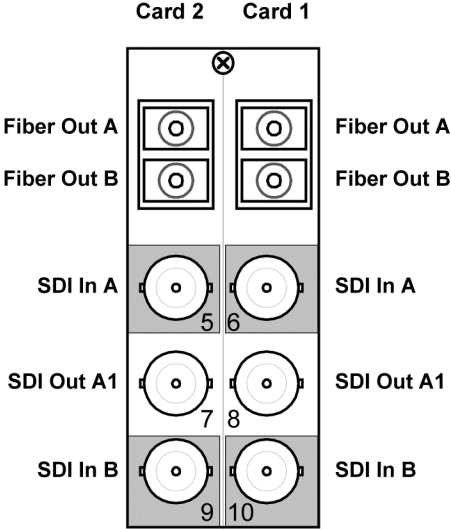

Figure 2.8 Cable Connections for the **RM20-9214-B/S** Rear Module
- **RM20-9214-B/S Split Rear Module** — Each 9214-2EO occupies one slot and provides two optical outputs, two SDI inputs, and one SDI output. **Figure 2.8**